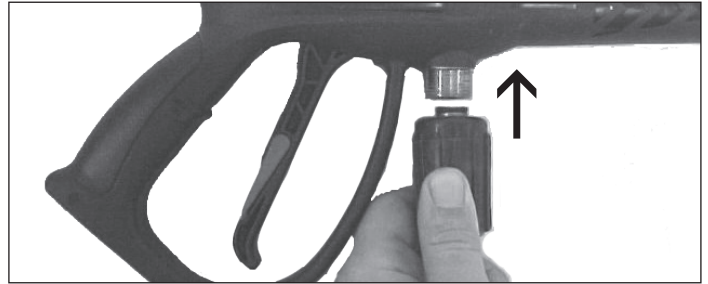

Figure 8 - Attach high pressure hose to gun
5. Connect the high pressure hose to the gun (See Figure 8).